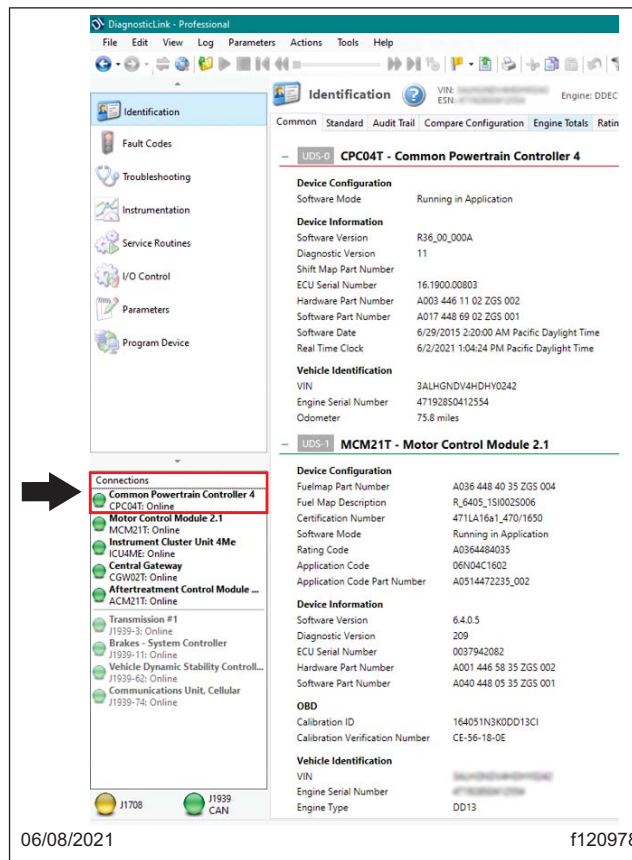

Fig. 1, CPC04T Connected and Online
3. Connect the vehicle to DiagnosticLink. Ensure that CPC04T is connected and online in the 'Connections' window. See Fig. 1.